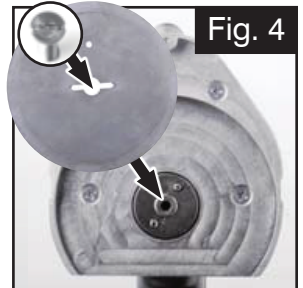

Fig. 4
5. Insert the new knife. (Fig. 4)